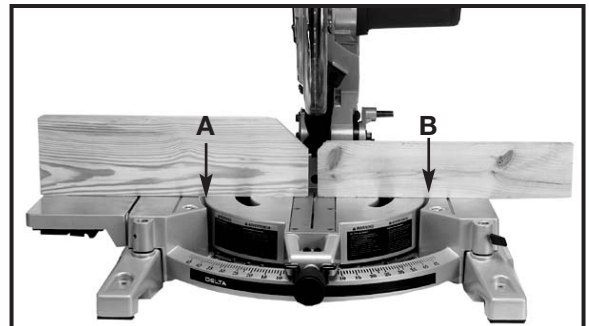

Fig. 32B
Holes are provided in the fence to attach an auxiliary fence (A) and (B) (Fig. 32B). This auxiliary fence is constructed of straight wood approximately 1/2" thick. Side A should be approximately 5.25" high by 10.5" long and side B should be approximately 3" high by 10.5" long.